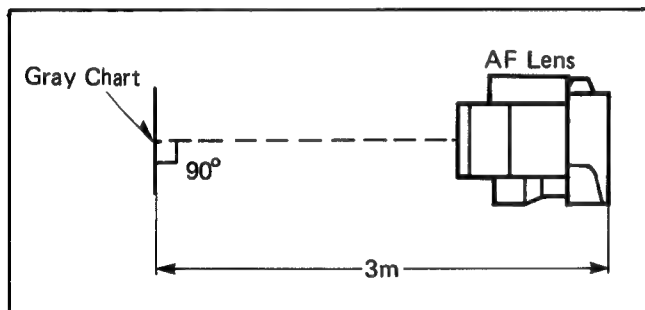

Fig. 8
3. Aim the camera at the gray chart (VFKW0009) as shown in Fig. 8.